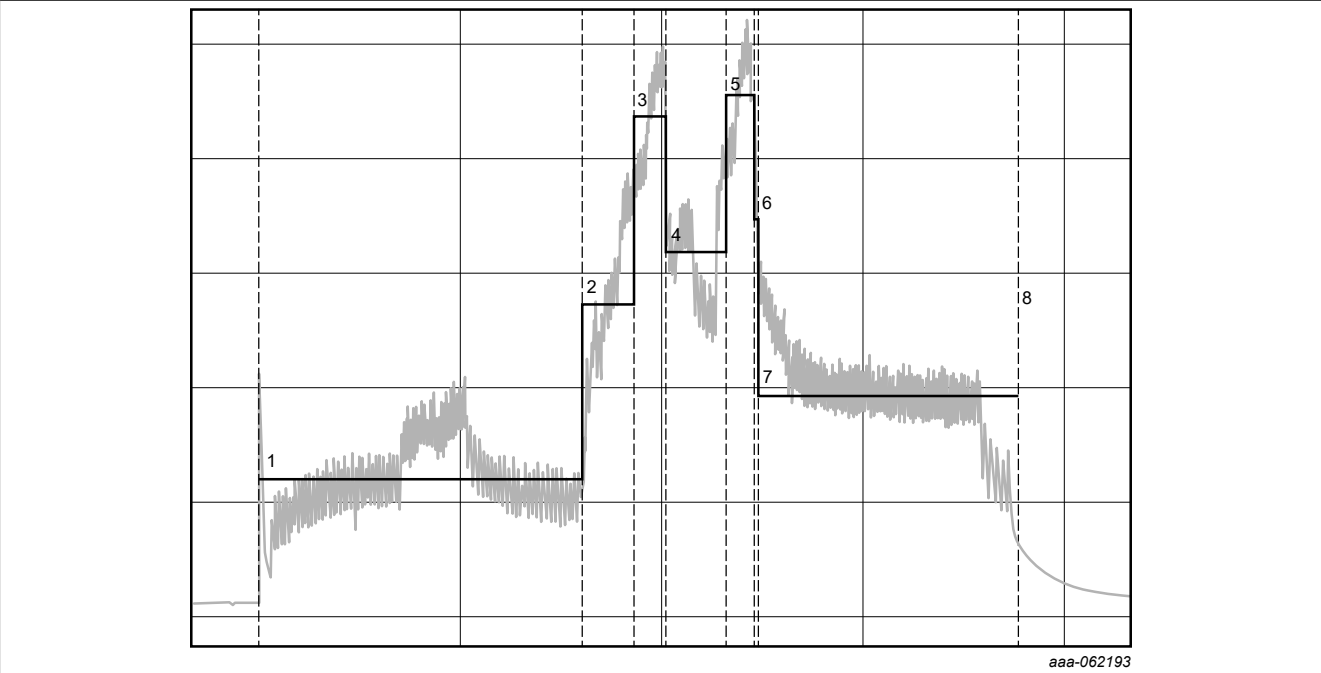

Figure 47. Current consumption - connection event period
- Figure 47 captures the current consumption during the connection event.